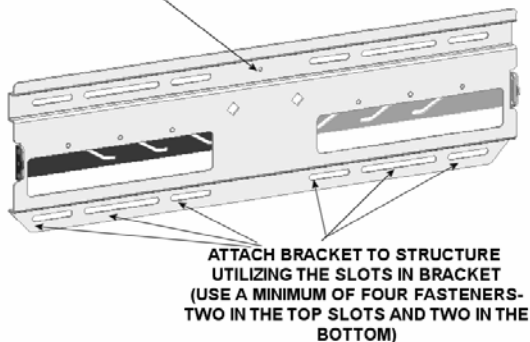
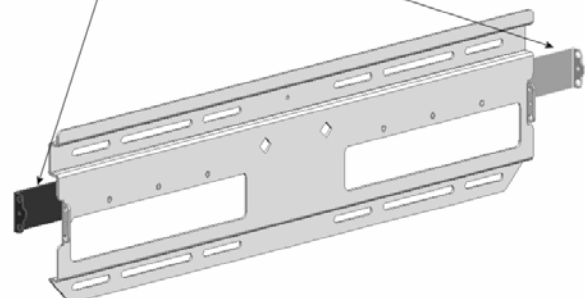

Figure 9. Wall Plate Installation
Figure 10. Slide Latches Outward
2. Using a small nail or screw (not provided) in the center hole, lightly hold wall plate at the mounting location (see Figure 9).
3. Level the wall plate (10) and drill pilot holes for anchoring the wall plate. If drilling into wood studs, us a 15/64" drill bit.
4. Using four 5/16" lag bolts (250) and 5/16" washers (260), install the wall plate on the wall.
5. Slide the latches to the outside (see Figure 10).